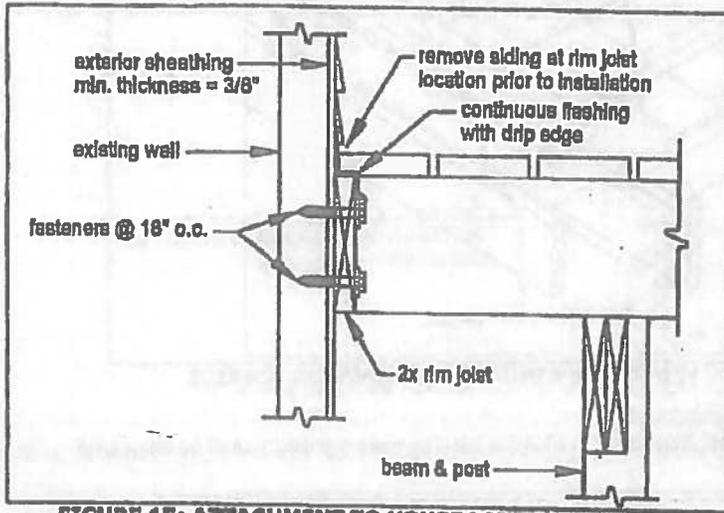

FIGURE 15: ATTACHMENT TO HOUSE LATERAL SUPPORT
- 2. **Attachment To House:** lateral support is provided by the attachment of the deck rim joist to the existing house as shown in FIGURE 15. The existing exterior wall must have sheathing consisting of structural wood panels with a minimum thickness of $\frac{3}{8}$ " and the fasteners shall attach to an existing band board or wall stud. The deck rim joist may also attach to a masonry or concrete wall, but not to a brick veneer. **YOU MUST VERIFY THIS CONDITION IN THE FIELD PRIOR TO UTILIZING THIS METHOD.** Fasteners shall be 16" on center and must penetrate existing wall studs. See also the provisions noted on sheet 6. Flashing over the rim joist is required and must be installed in accordance with the flashing provisions noted on sheet 4. For rim joist size and requirements, see sheet 10.